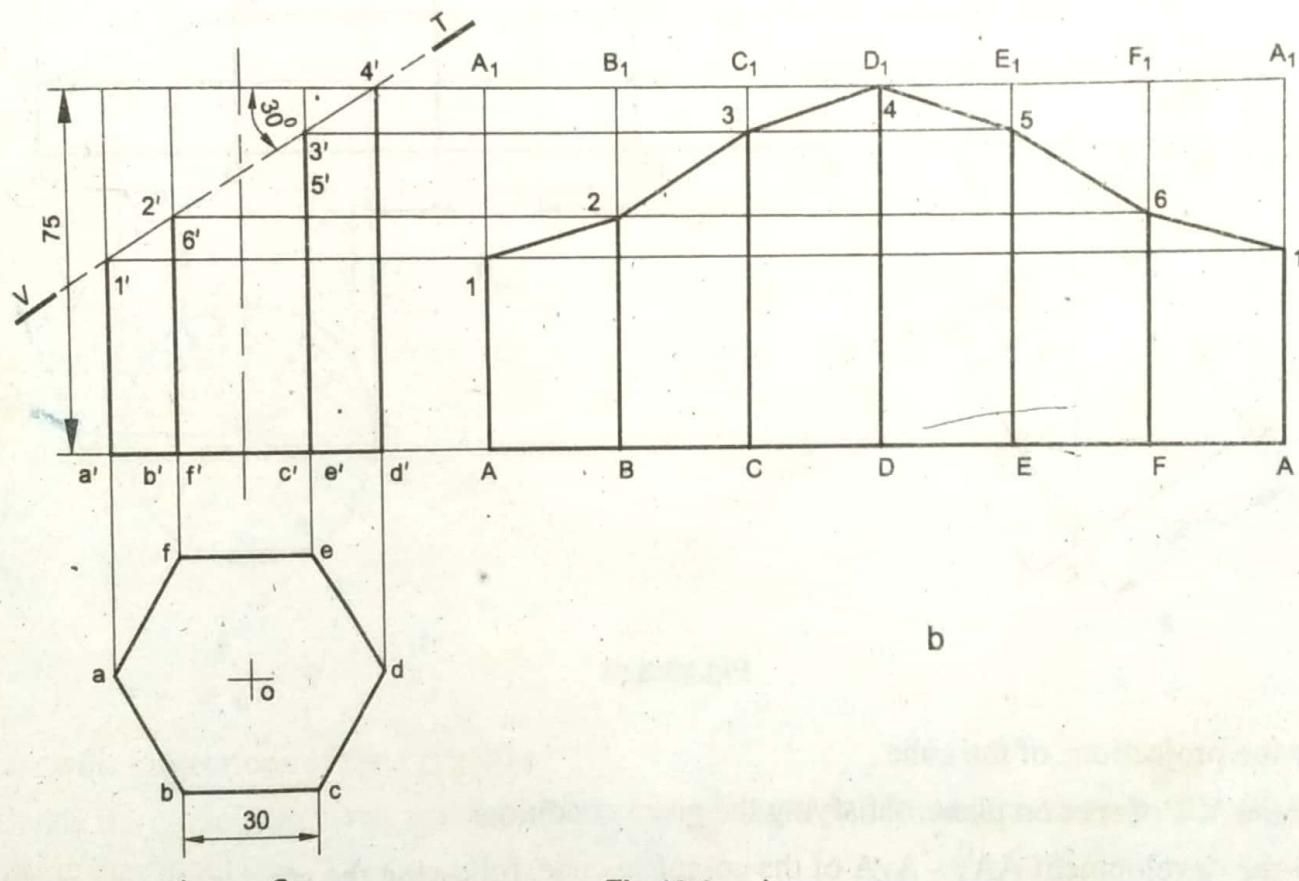

Fig.13.2
**Construction (Fig. 13.2)**
- Repeat steps 4 to 6 of Construction: Fig. 13.2 and obtain the development of the cut solid.